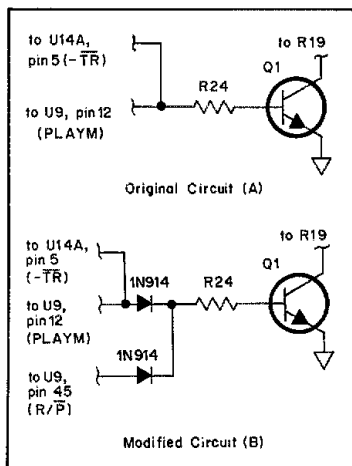

Fig 1—The Electronic Parrot can be modified to pass microphone audio through to the transceiver while recording by adding two 1N914 diodes to the base of Q1.
□ Heath suggests that users of the μ Matic Memory Keyer ground themselves to protect the μ Matic's components from electrostatic discharge (ESD). ESD danger is especially high on winter days when the relative humidity in heated buildings is low. Fig 1 shows my solution to this problem: a grounded metal strip that I touch each time my hand goes to the μ Matic paddles. The strip consists of self-adhesive, stainless-steel tape (available in hobby or "home center" stores). The rubber pad also provides an antislip base for the keyer. —*John DeCicco, KB2ARU, 1816 Ave S, Brooklyn, NY 11229*
Fig 1—John DeCicco protects his μ Matic keyer from static-electricity damage with a grounded length of self-adhesive steel tape. The rubber pad supports the tape and keeps the keyer from sliding on the table. Approaching John's antistatic measures from a commercial angle, computer stores carry "groundable" resistive strips and mats intended to protect computers and keyboards from ESD: such products would also protect the μ Matic. Hints and Kinks suggests installing a 1-megohm, 1-watt resistor (or a series-parallel resistor combination of equivalent resistance and power rating) between the metal strip and ground to limit current in the strip ground to an operator-safe level.
message while trying to hold a frequency. The modification also allows you to hear the new message (through the transceiver monitor) as it is being recorded, so the recording level can be regulated. As shown here in Fig 1, the modification merely involves the addition of two 1N914 diodes to the base of Q1.